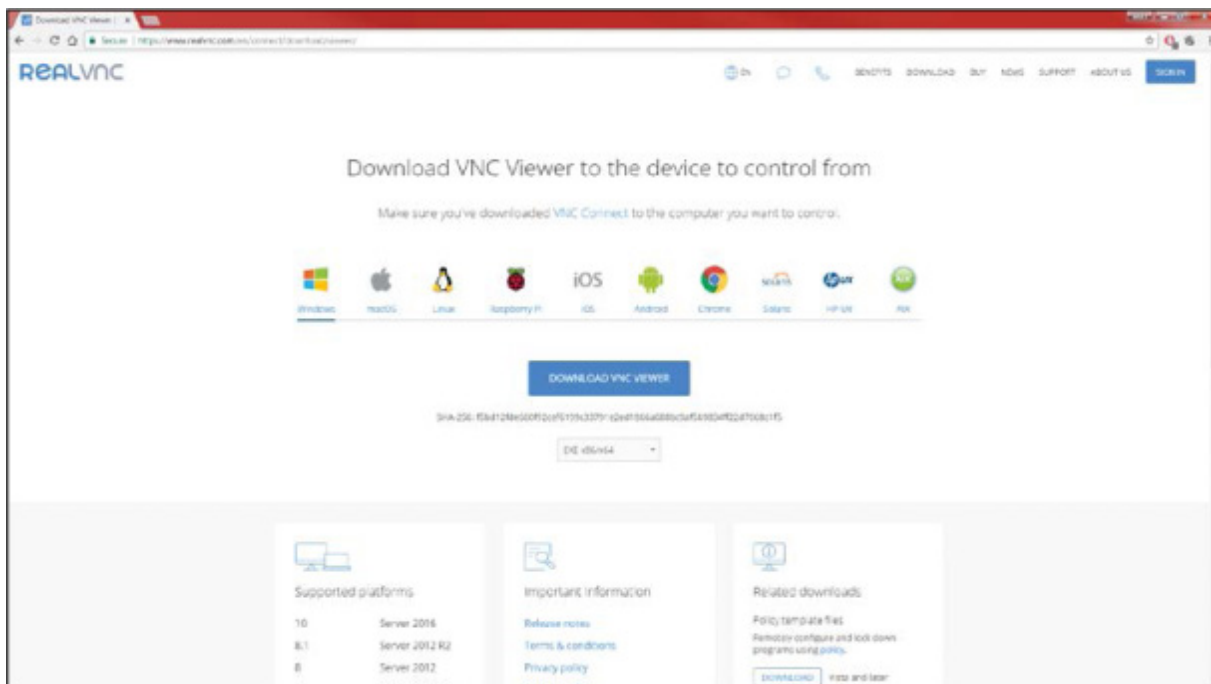

FIGURE 8-13 The VNC Viewer software download page
1. On your computer, open a web browser and go to <https://www.realvnc.com/en/connect/download/viewer/>. You should see the download page for the VNC Viewer software, shown in Figure 8-13.